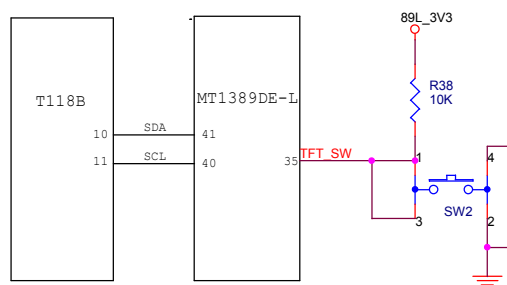

Figure 3.2.7.1 Screen off detect control circuit
1. Audio output circuit block diagram is shown as in the following figure 3.2.7.1:
PT-2303S drive speaker adopts bridge connection. That drives headphone is single ending working mode and its switch between them is fulfilled by HP-IN pin. As shown in the figure 3.2.7.2, when headphone is inserted into a jack, a $4V \sim VDD/2$ voltage is added to HP-IN, which may cut off internal operational amplifying module Amp2A and Amp2B to make the load connected by bridge invalid. Now IC lies in single ending working mode and speaker has no sound output. When no headphone is connected to jack, partial pressure resistance of R116, R117 makes the voltage supplied to pin HP-IN (pin 16) close to 50mV, drive Amp2A and Amp2B are in working state to make 2303-S work in bridge mode and transmit to speaker through drive board to make speaker has sound output.
1. Screen off detect control circuit is shown as in the following figure 3.2.7.1: